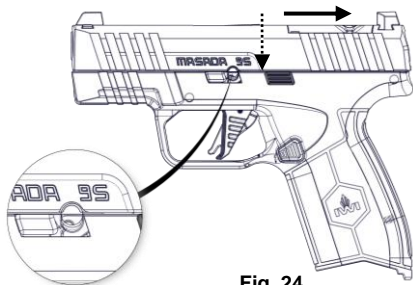

Fig. 24
4. Make sure the sear disconnect is in the forward position. (Fig. 24).